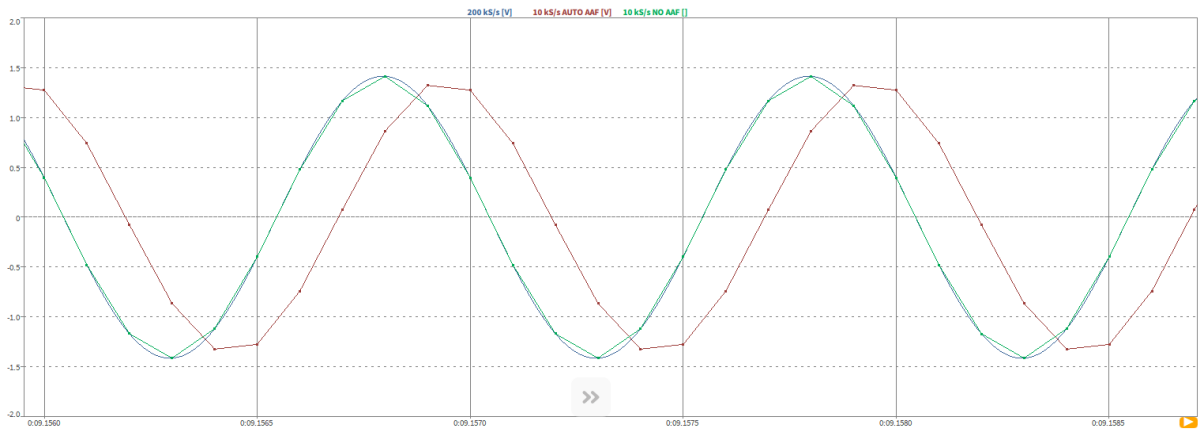

Fig. 7.39: Channel-wise sample rate reduction with example signals
In Fig. 7.39 exemplary signals with and without sample rate reduction and with different filter settings can be seen. The different signals have the following settings:
- A table can also be copied from another source, e.g. Excel and pasted with **CTRL+V** or the *Paste* button into the table scaling menu. Likewise, the table can be copied using **CTRL+C** or the *Copy* button and pasted into e.g. Excel (see Fig. 7.39).